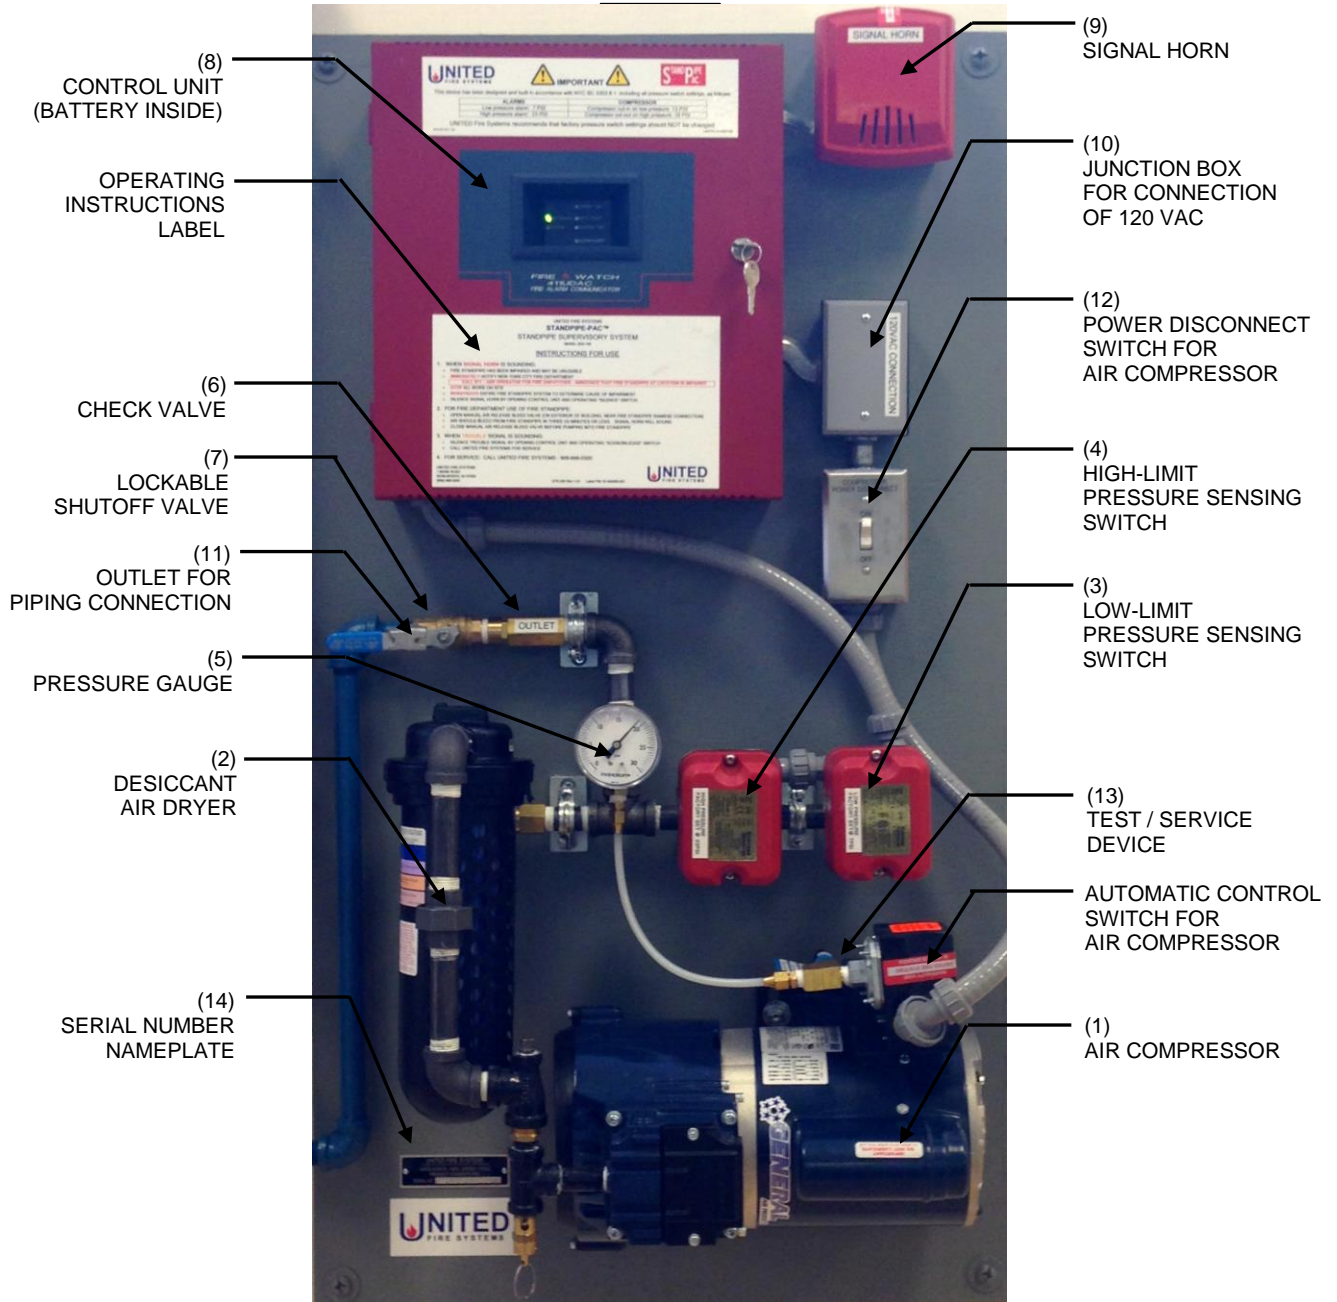

Figure 1 – **STANDPIPE-PAC™** Unit
1.3. Functional Description. See Figures 1, 2, 3, and 4. **STANDPIPE-PAC™** consists of the following: